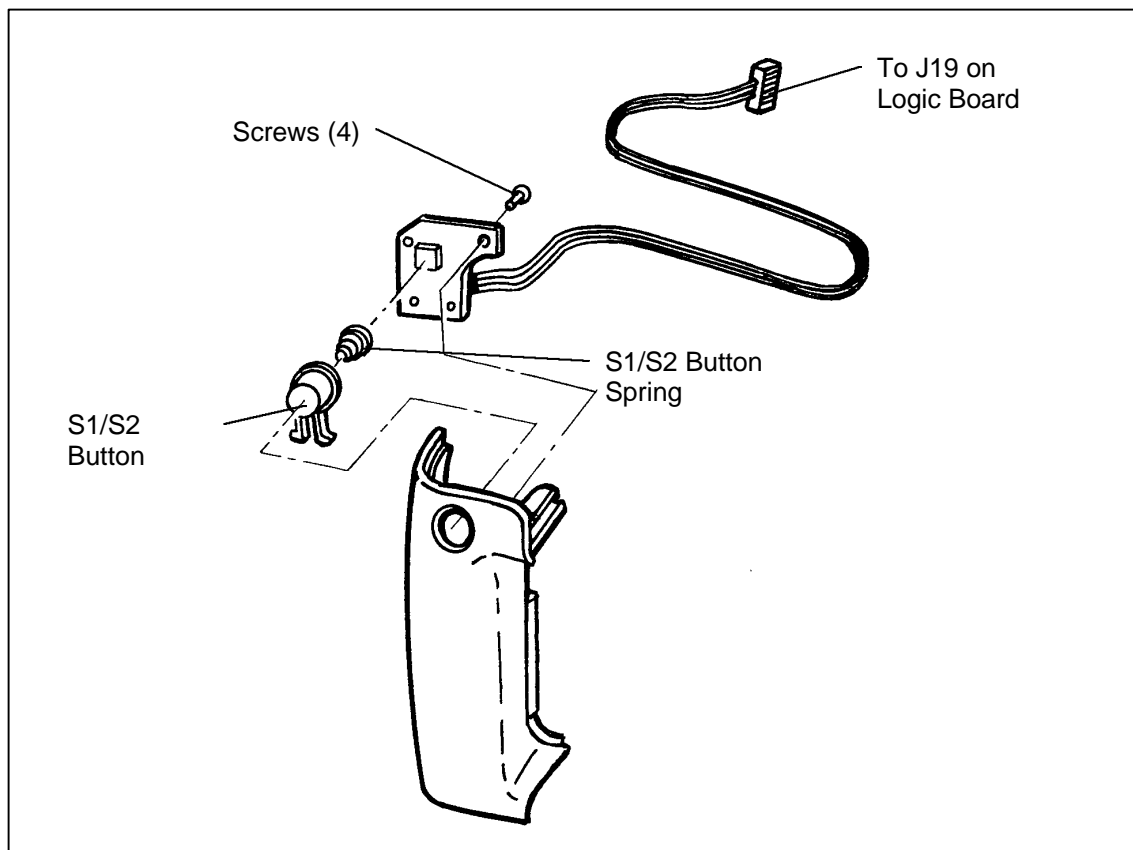

Figure 5-8 S1/S2 PC Board
1. Removal (Figure 5-8)
- d. Using a torx driver, remove the four (4) screws securing the S1/S2 PC board to the right hand grip support mounts.